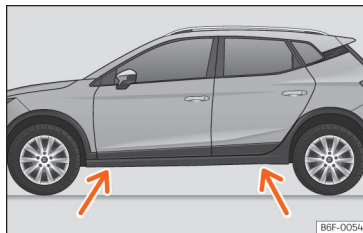

Fig. 74 Jack position points.
- Find the support point on the strut (sunken area) closest to the wheel to be changed »» Fig. 74.